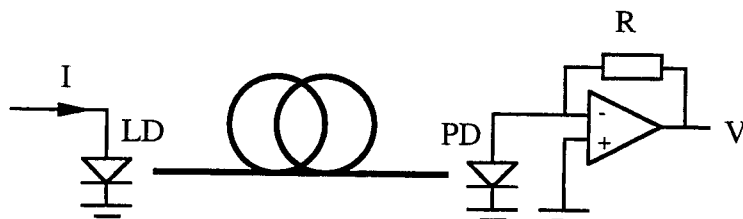

Figure 3.
- b) The student has apparently used an LD72L laser in a point-to-point communications link, as shown in Figure 3. The detector amplifier uses a 1 k Ω feedback resistor. With no fibre in the link, and with the laser emission coupled directly to the detector, the voltage developed at the output of the amplifier is 3.6 V when the laser drive current is 50 mA. With 50 km of fibre inserted in the link, the output is 114 mV, and with 150 km of fibre it is 1.14 mV. Estimate the quantum efficiency and responsivity of the detector, the coupling loss into the fibre, and the propagation loss.